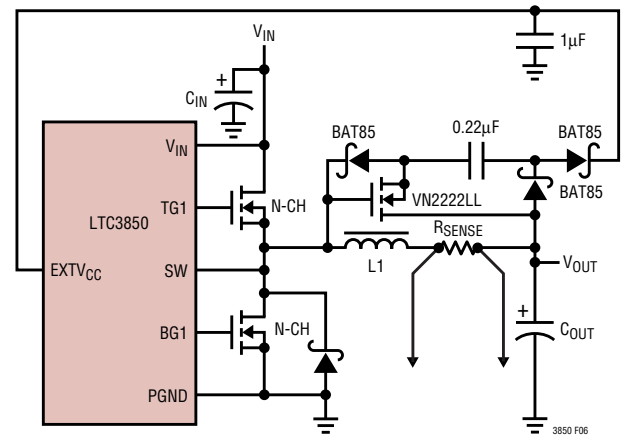

Figure 6. Capacitive Charge Pump for $EXTV_{CC}$
4. $EXTV_{CC}$ connected to an output-derived boost network. For 3.3V and other low voltage regulators, efficiency gains can still be realized by connecting $EXTV_{CC}$ to an output-derived voltage that has been boosted to greater than 4.7V. This can be done with the capacitive charge pump shown in Figure 6.